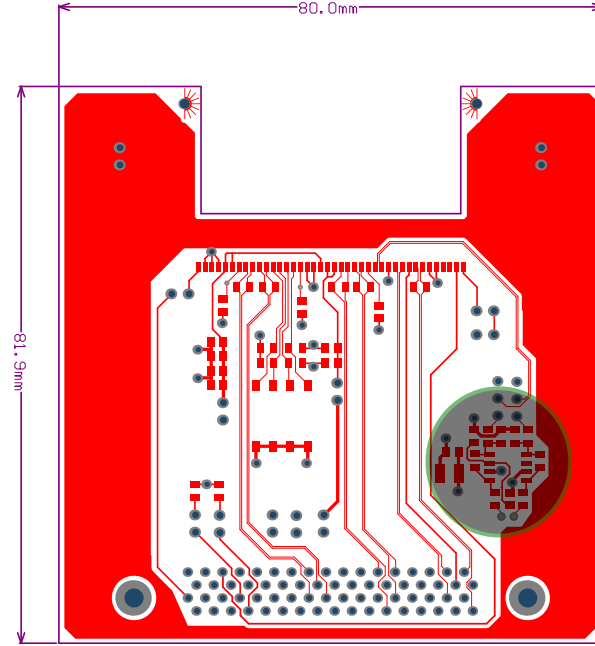

Figure 4: Plane adaptor dimensions with indicated FAST-OR amplification circuit.
- amplified on the adaptor planes (Figure 4)
- needs to be converted to NIM-signal for the Trigger Unit (TU)